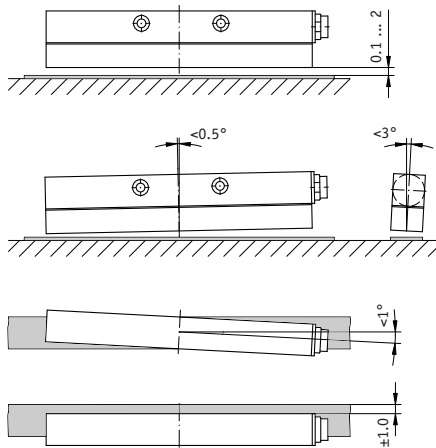

Fig. 7: Mounting tolerances
**Attention!** When mounting sensor and magnetic strip please observe that both components are correctly aligned and that the mounting tolerances are respected. (see fig. 7).
The sensor's position relative to the magnetic strip is exactly defined. The correct gap between sensor and magnetic strip must be maintained over the total travel distance, irrespective whether the strip or sensor moves. (fig. 7).
Within the defined limits (fig. 7), errors due to deviation are less important than errors resulting from strip and sensor tolerances.